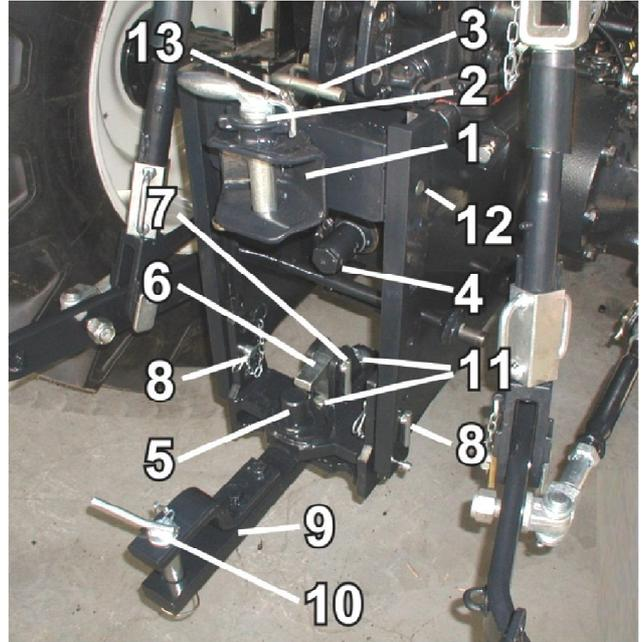

Fig. 4.6.2. Hitches
- shift the upper transport hitch to top position (1 - Fig. 4.6.2),
- remove the drawbar (5 - Fig. 4.6.2) after putting out pins (11 - Fig. 4.6.2),
Upper transportation hitch (1 - Fig. 4.6.2) – is used for hitching a two-axle trailers.
The hitch is movable in vertical plane. To change the hitch position, push the hitch adjustment lever lock button (13 - Fig. 4.6.2) and pull the adjustment lever (3 - Fig. 4.6.2) upwards to move out lock pins from slide ways holes (12 - Fig. 4.6.2). With the same lever shift the hitch for required height and put down the lever to let the pins enter holes in slide ways and lock the hitch at required height.
Tractor drawbar (9 - Fig. 4.6.2) – is used for hitching trailed single-axle machines and implements.
Lower transportation hitch (5 - Fig. 4.6.2) – is used for hitching single-axle trailers and implements with 50 mm dia. hitch-ring. To attach a trailer put up and move backwards hitch lock (6 - Fig. 4.6.2) then put the lock and secure with pin (7 - Fig. 4.6.2).